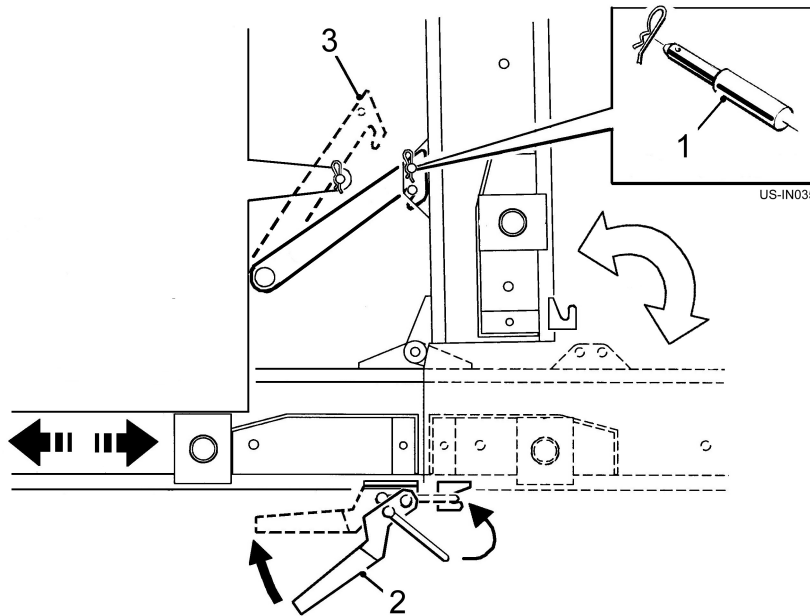

Fig 12
- 1 Remove the transport pin (item 1, fig 12).
3. Lock the conveyor with the bottom catches (item 2, fig 12).
4. Disengage the latch hook (item 3, fig 12) and position into stowage.
5. Secure with the transport pin (item 1, fig 12).
1. Unlock the conveyor bottom catches (item 2, fig 12).
2. Remove the transport pin (item 1, fig 12).
3. Engage the latch hook (item 3, fig 12) over the conveyor.
5. Insert the transport pin (item 1, fig 12).